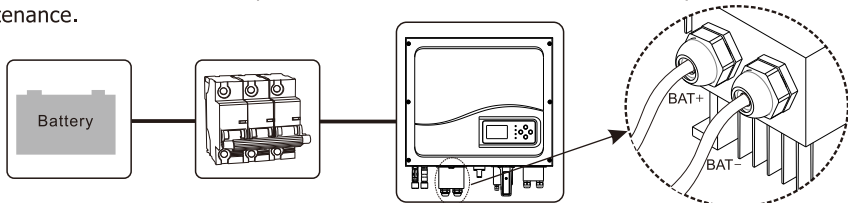

Figure 5-25
- (1) Disconnect the breaker between inverter and battery.
- (2) Check the polarity of the battery and the inverter.
- (3) Compress the terminal head by professional tool.
- (4) Screw the wire cable to the inverter’s battery input terminal.
- (5) If the inverter connects to a lead-acid type battery, you must connect BTS to the inverter, the CN8 BTS connection terminal in the COM connection port. (Figure 5-25)